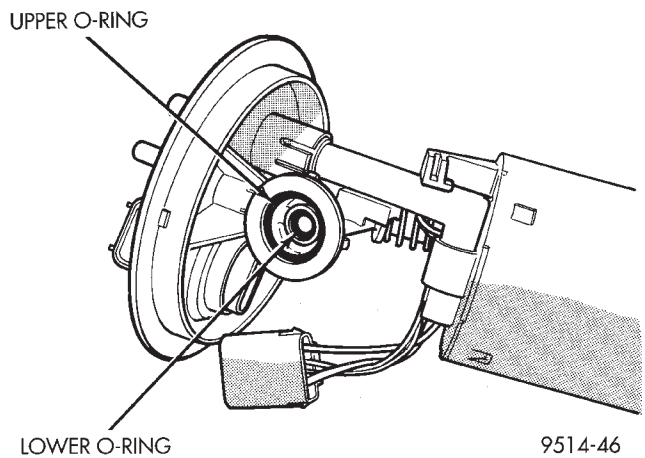

Fig. 18 Fuel Pressure Regulator O-rings
- (1) Lightly lubricate the O-rings with clean engine oil and place them into opening in pump module (Fig. 18).
- (2) Push regulator into opening in pump module.
- (3) Fold tangs on regulator retainer over tabs on housing.